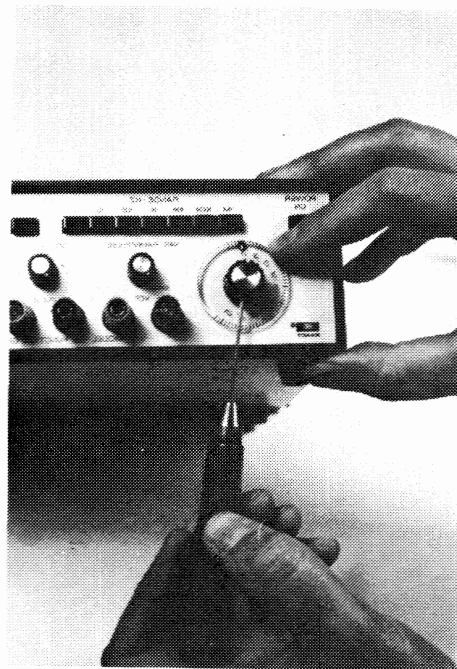

Fig. 5-6
- Place the MULTIPLIER knob and dial skirt on the shaft with the index mark on the front panel. Figure 5-6.